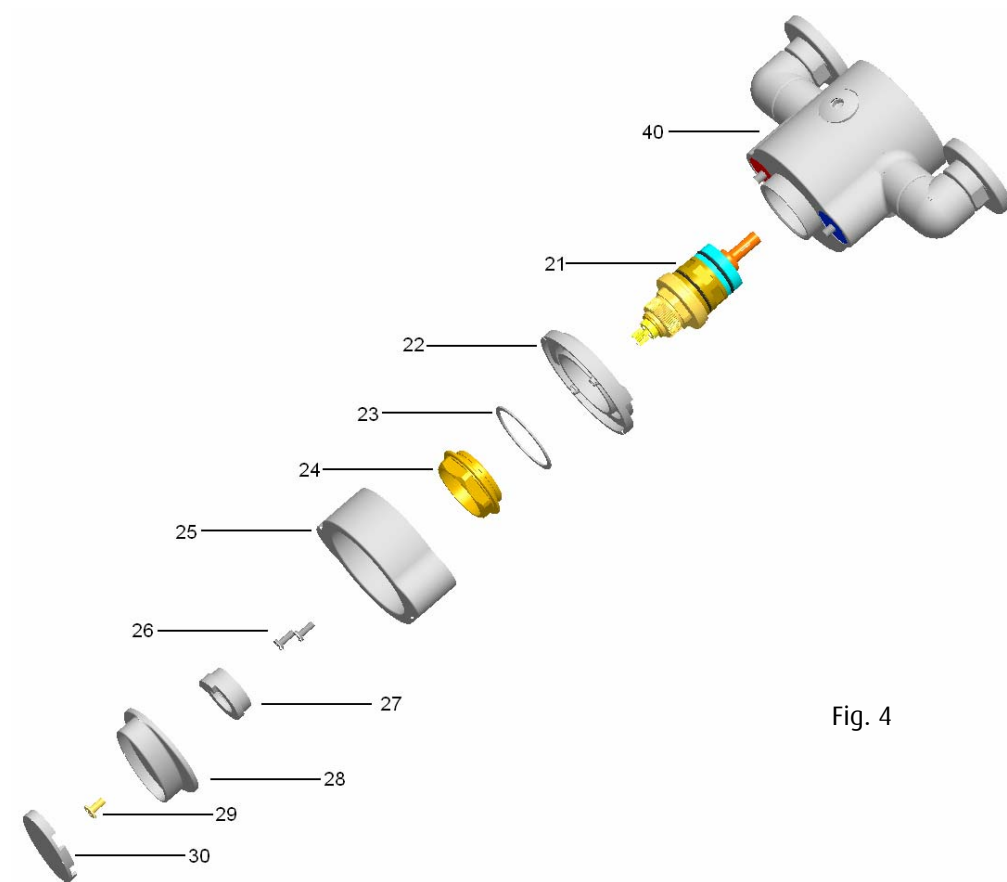

Fig. 4
8.3 Cartridge Removal (See Fig. 4)